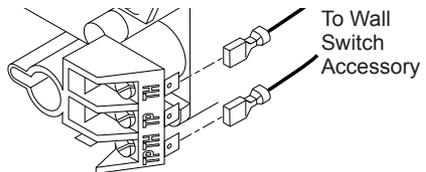

Figure 44 - Connecting Wall Switch to Control Valve
- Connect one terminal of 25 ft. wire for wall switch to TPTH terminal on valve. Connect remaining wire terminal to TH terminal on valve. Make sure wire terminals are in positions on unit as pictured in Figure 44. If wires are not connected as shown switch will not work.
4. Connect wires from receiver to TH and TPTH to control valve (see Figure 44, page 25).